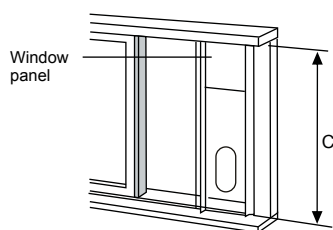

Fig. 13
2. Attach the window slider kit to the window stool. Adjust the length of the window slider kit according to the width of window, shorten the adjustable window kit if the width of window is less than 26.5" (67.5 cm). Open the window sash and place the window slider kit on the window stool. See Fig. 13.